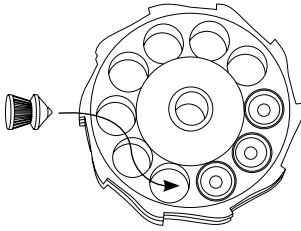

Fig. 10
3. Load pellets through the rear of the magazine. (Fig. 10) Push the pellet nose through the retaining O-ring until the skirt lies flush or below the bottom of the magazine face.